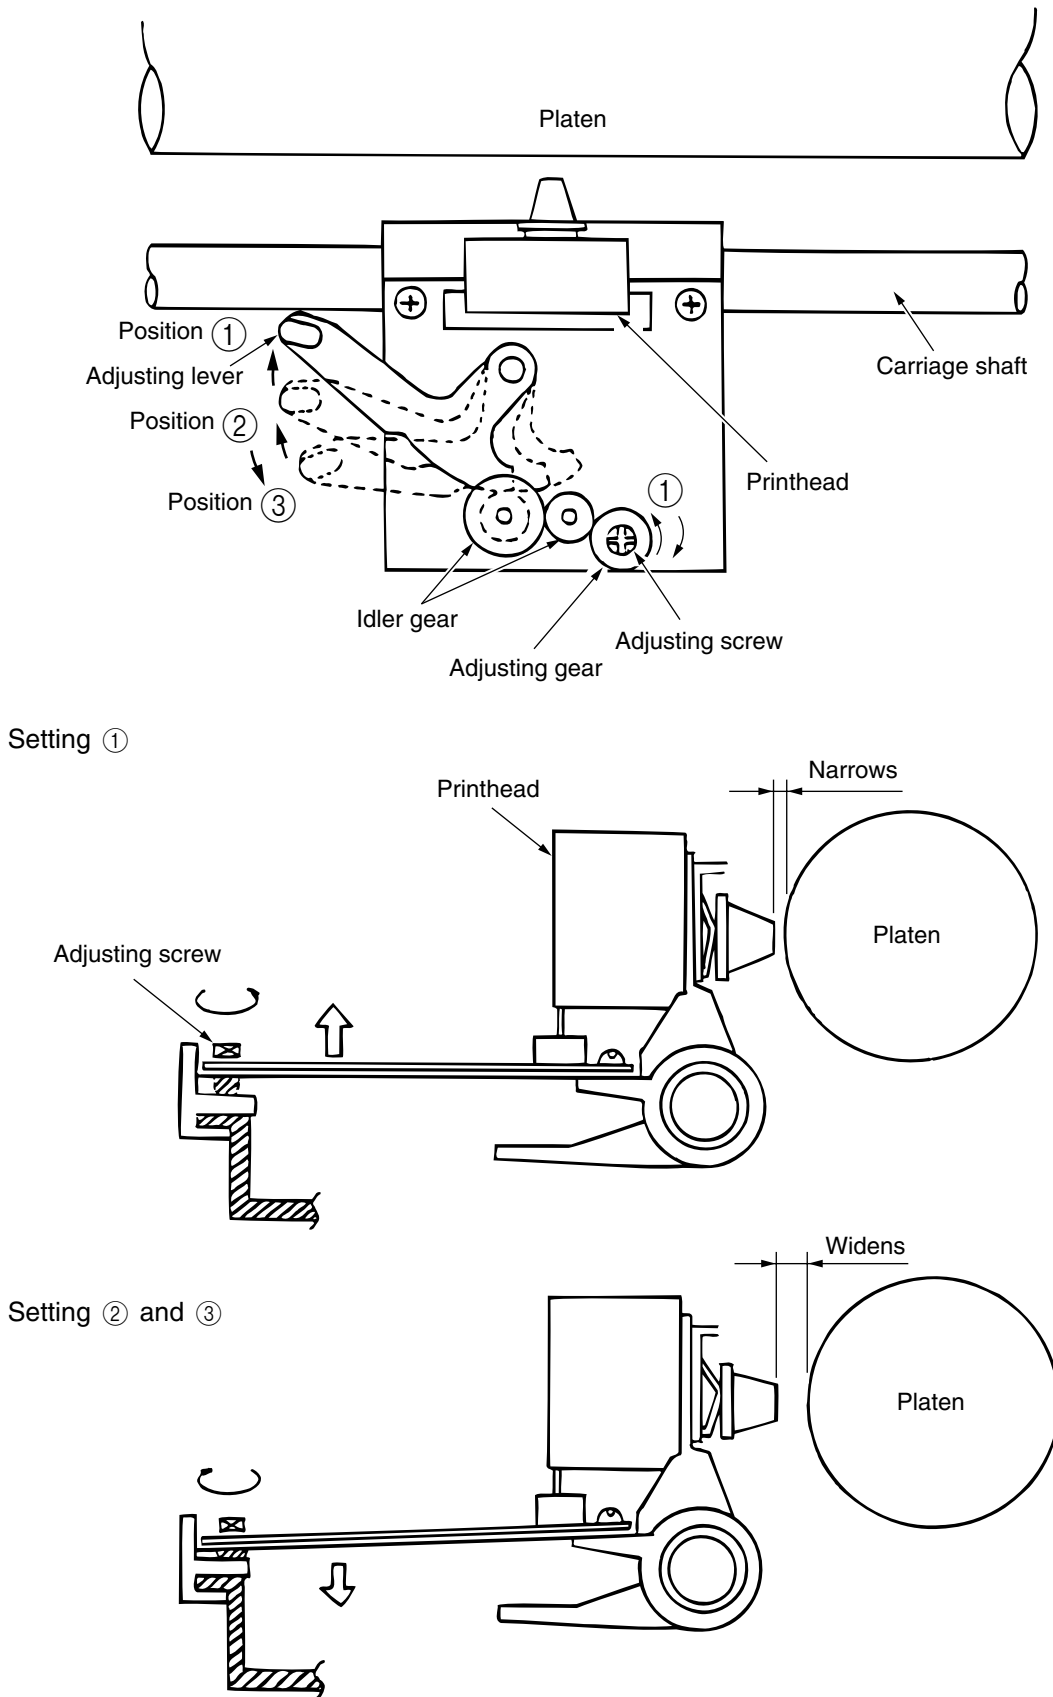

Figure 2-5
2.2.3 Head gap adjustment mechanism (See Figure 2-5.)